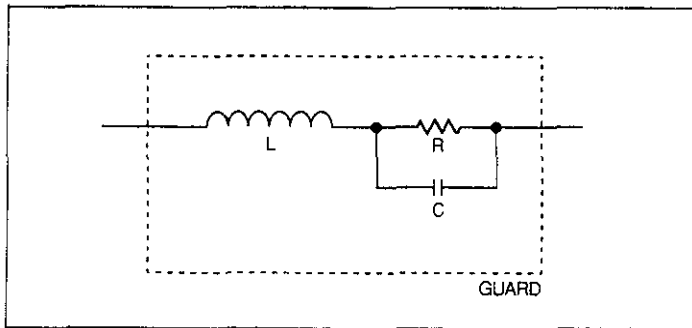
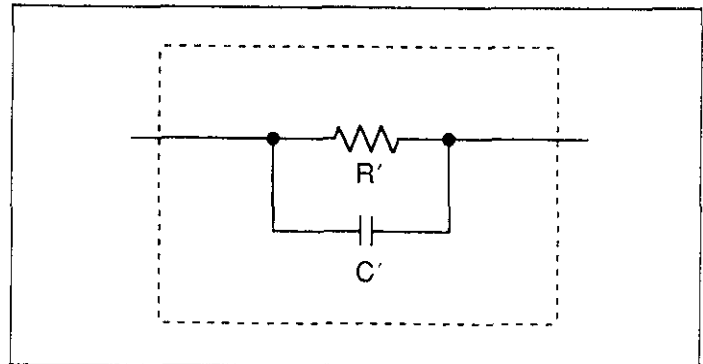

Figure 2-4. High Frequency Model of Conductance Source
Figure 2-5. Equivalent Parallel Circuit of Conductance Source
As shown in Figure 2-4, the conductance source can be modeled as a resistor (R), with a capacitance (C) in parallel with the resistor, representing the body capacitance, and an inductor (L) in series with the RC combination, representing the inductance of the resistor leads and BNC connectors. As is the case with the capacitance source 1kHz measurement, a guarded impedance measurement will eliminate stray impedance effects between this network and guard.
To obtain the effective conductance and parallel capacitance that an instrument will measure at a particular frequency, it is necessary to transform the circuit shown in Figure 2-4 into the parallel equivalent shown in Figure 2-5. Note that the values are valid only at the one frequency for which equivalent values are computed.
The values R' and C' of Figure 2-5 are related to the R , L , and C values shown in Figure 2-4 at the single frequency $\omega = 2\pi f$ as follows: